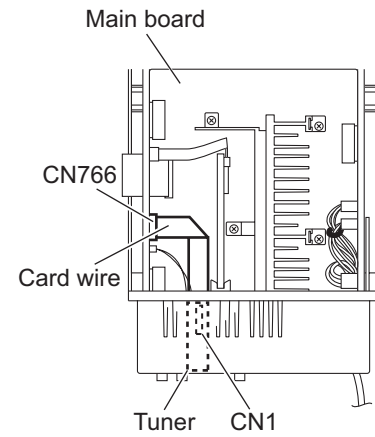

Fig.14
3.1.6 Removing the tuner (See Figs.14 and 15)
- (1) From the top side of the main body, disconnect the card wire from the connector CN766 on the main board. (See Fig.14)
Disconnect the card wire from the connector CN1 on the tuner as required. (See Fig.14)